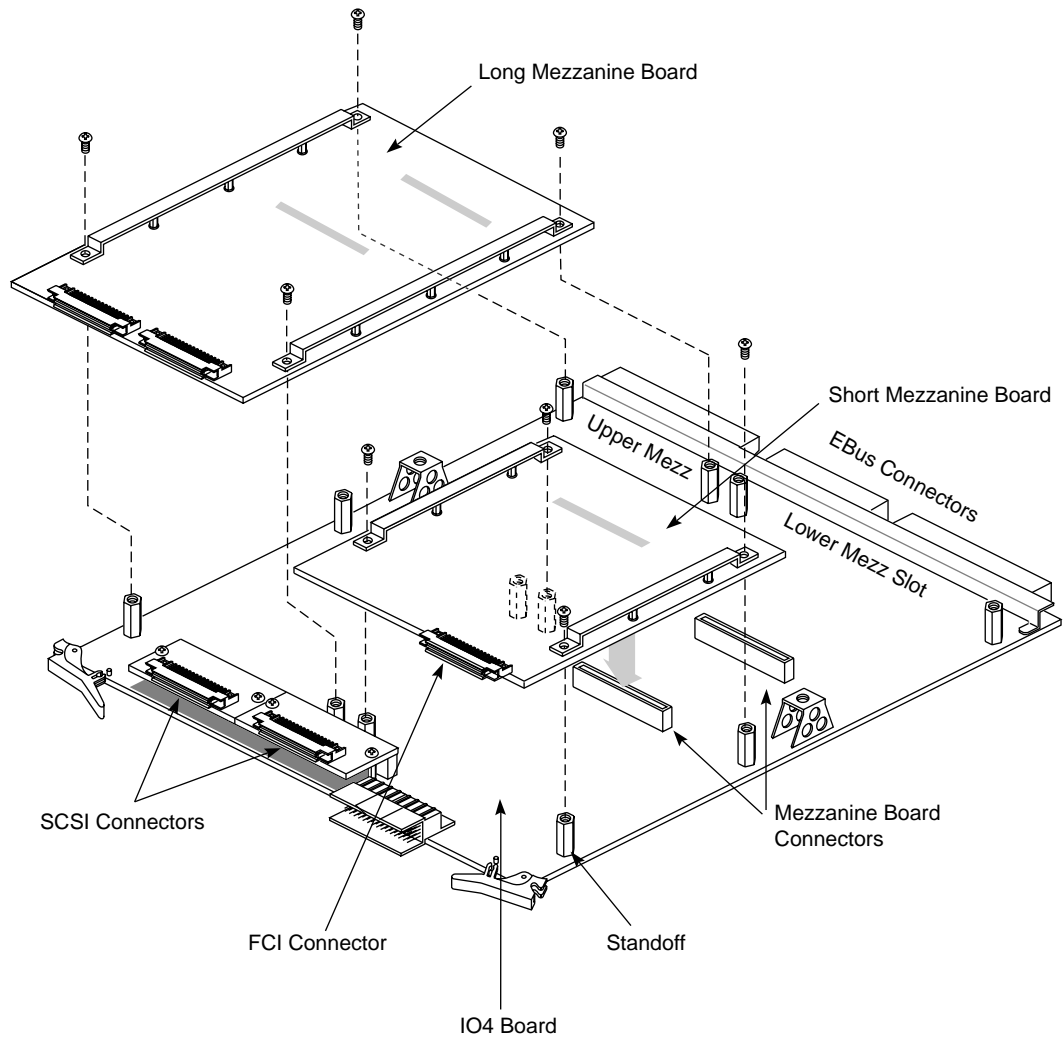

Figure 2-18 IO4 Board with Mezzanine Boards
2. Lay the board on a flat antistatic surface so that the component side faces up and the SCSI connectors face toward you, as illustrated in Figure 2-18.
3. Locate the selected mezzanine slot (upper or lower) and remove the four screws from the standoffs, as illustrated in Figure 2-18. If the screws are missing, this is not a problem.